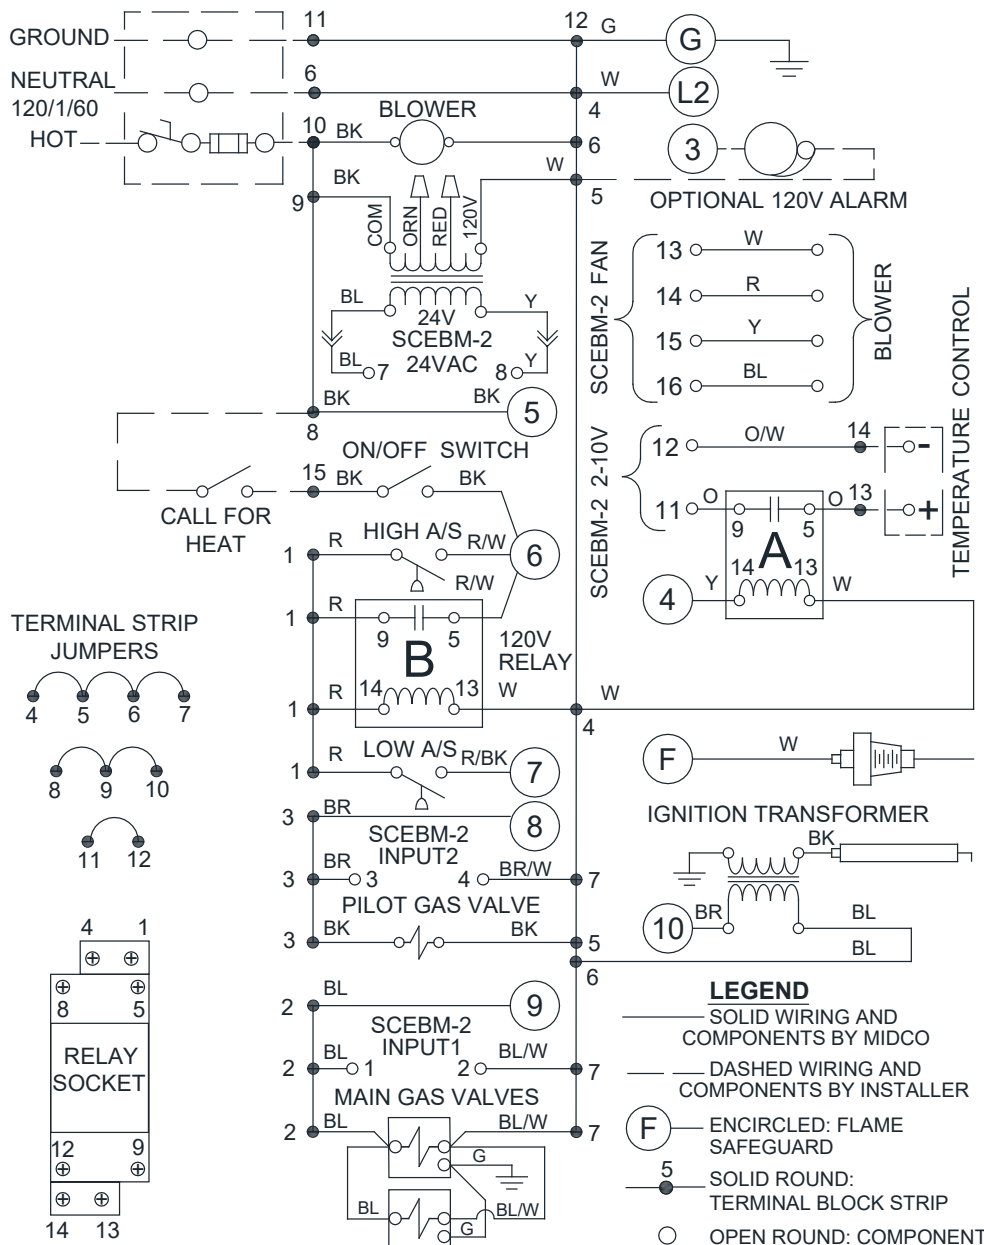

Figure 4A: Wiring Diagram for the VA series models
⚠ CAUTION: Refer to wiring diagram located on the inside of the burner housing cover. Before proceeding verify burner model number for correct wiring diagram. Refer to Figures 4A / 4B / 4C / 4D for 120V models and 4E for 24V models.
for **Honeywell control** - hot wire to strip terminal 10, neutral 6—and that the neutral line is not subject to induced low voltage (check 6 to 11 earth ground) (refer to Figures 4A and 4B) ...
- for **Honeywell control** - 10 (Black), 6 (White), and 11 (Green) (refer to Figures 4A and 4B).
- for **Honeywell control** - positive 13 (+) and 14 negative (-) (refer to Figures 4A and 4B).
for **Honeywell control** - 2 (Blue), 7 (Blue/White) and 12 (Green) (refer to Figures 4A and 4B).
for **Honeywell control** - terminals 8 and 15 (refer to Figures 4A and 4B).